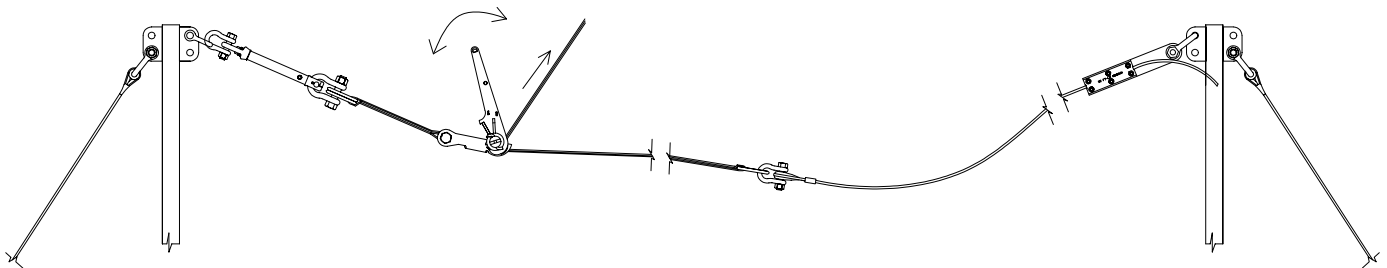

Figure 6
21. Begin lifting the horizontal lifeline cable assembly to its intended position (see Figure 6). If bypass stanchions are being used, the cable must be placed through the center of the bypass fittings before the cable is properly tensioned. Pass the free end of the ratchet strap into the slot of the ratchet. Pull the free end of the ratchet strap to help remove slack from the lifeline cable.